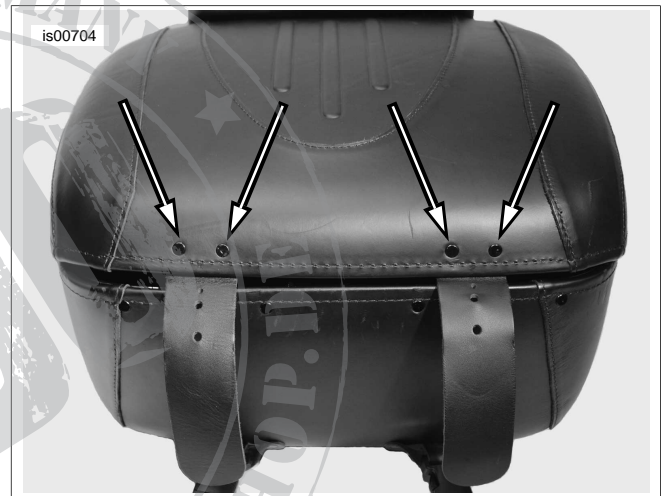

Figure 1. Location of Original Equipment Rivets
2. See Figure 1. Using a 3/16 in. (4.8 mm) diameter drill bit, carefully drill out the four rivets that hold the leather straps to the Tour-Pak lid. Then open up holes with a 7/32 in. (5.6 mm) diameter drill.